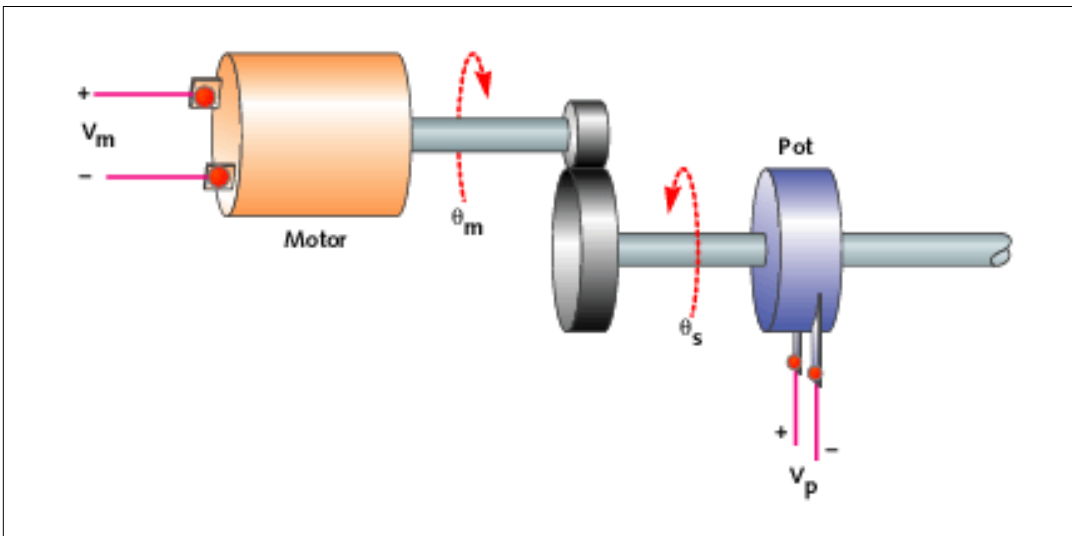
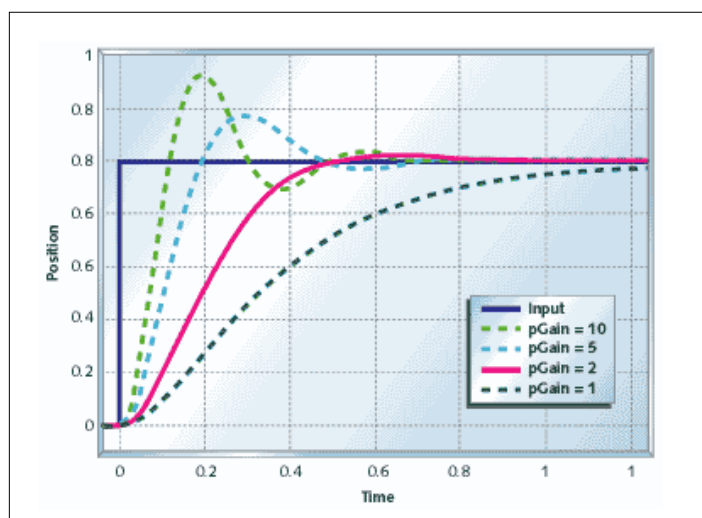
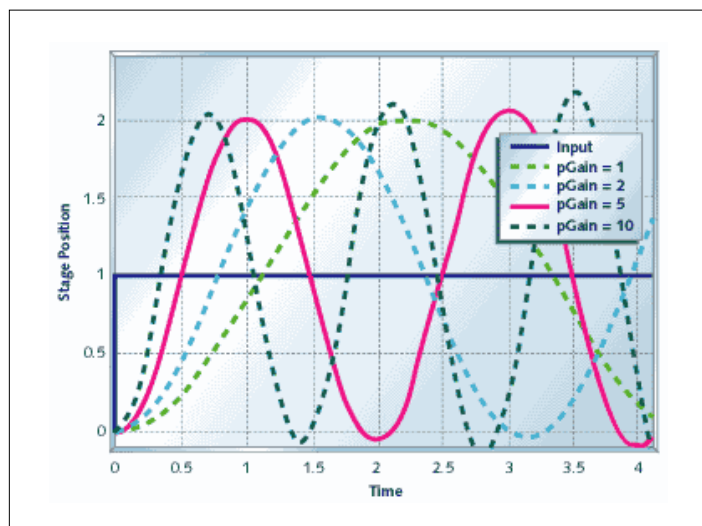
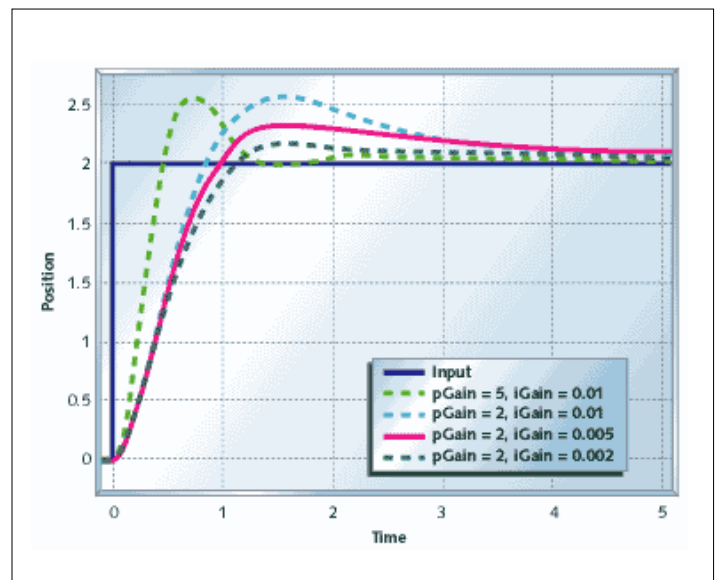

Figure 2
Figure 8
Figure 9
Figure 13
carriage on a printer, or a throttle mechanism in an automobile cruise control system, or almost any other moderately precise position controller. **Figure 2** shows a diagram of such a system. The motor is driven by a voltage that is commanded by software. The motor output is geared down to drive the actual mechanism. The position of this final drive is measured by the potentiometer.
Figure 8 shows what happens when you add proportional feedback to the motor and gear system. For small gains ($k_p = 1$) the motor goes to the correct target, but it does so quite slowly. Increasing the gain ($k_p = 2$) speeds
The motor and gear start to overshoot with high gains because of the delay in the motor response. If you look back at **Figure 2**, you can see that the motor position doesn't start ramping up immediately. This delay, plus high feedback gain, is what causes the overshoot seen in **Figure 8**. **Figure 9** shows the response of the precision actuator with proportional feedback only. Proportional control alone obviously doesn't help this system. There is so much delay in the plant that no matter how low the gain is, the system will oscillate. As the gain is increased, the frequency of the output will increase but the system just won't settle.
Figure 13 shows the motor and gear with proportional and integral (PI) control. Compare this with **Figures 8** and **11**. The position takes longer to settle out than the system with pure proportional control, but it will not settle to the wrong spot.
motor/controller of Figure 13, and limited the motor drive to ± 0.2 . Not only is controller output much greater than the drive available to the motor, but the motor shows severe overshoot. The motor actually reaches its target at around five seconds, but it doesn't reverse direction until eight seconds, and doesn't settle out until 15 seconds have gone by.